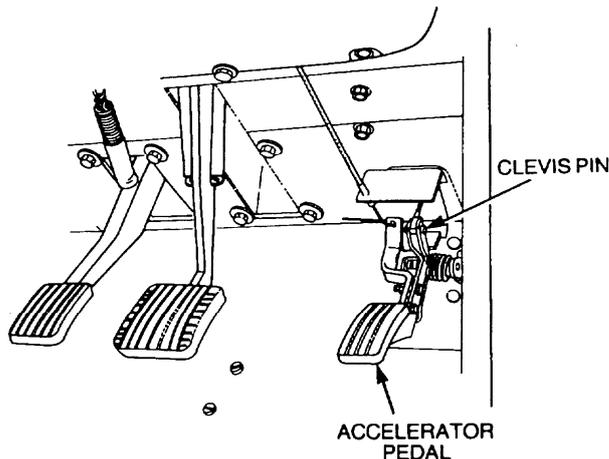

Figure 39 Accelerator Cable Removal
- a. Disconnect the cable from the pedal by removing the split pin and clevis pin (Figure 39). Discard the split pin.